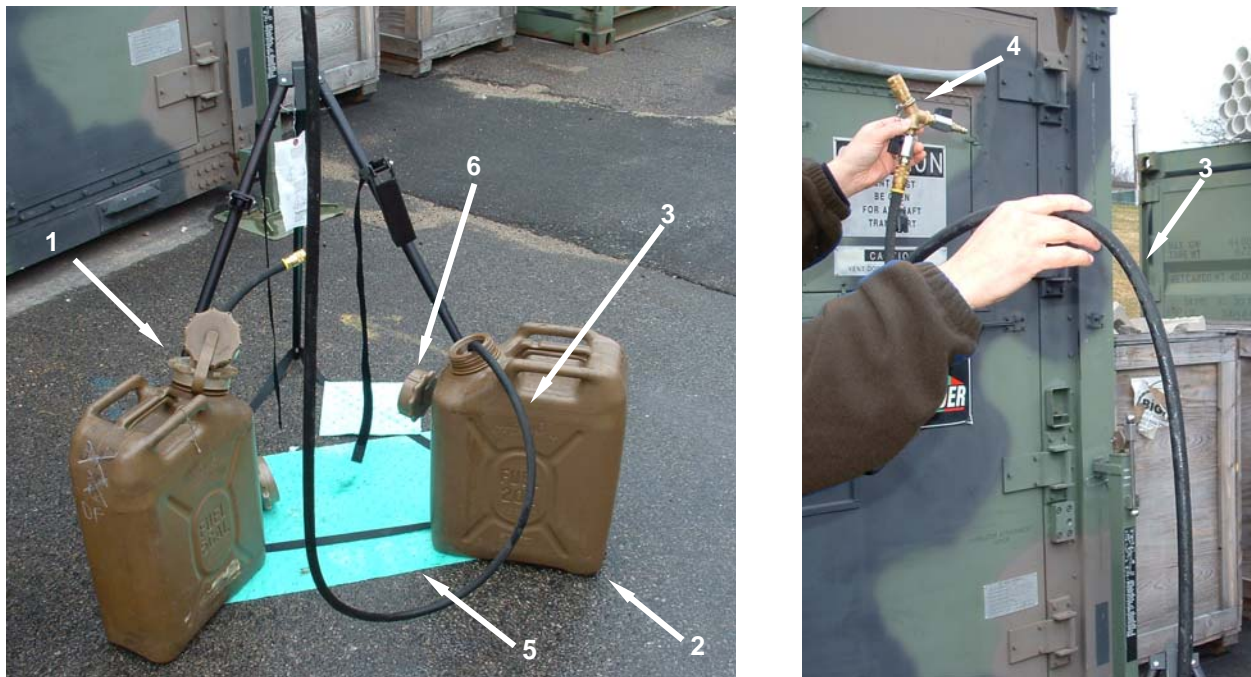

Figure 16. Prepare for Movement – Draining the Fuel Hose.
14. Remove the gravity feed adapter (**Figure 16, Item 1**) from one fuel can (**Figure 16, Item 2**), and leave the can open.
15. Place the male end of the fuel hose (**Figure 16, Item 3**) into the open can (**Figure 16, Item 2**).
16. Connect the Y adapter (**Figure 16, Item 4**) to the female end of the fuel hose (**Figure 16, Item 3**), and raise the Y adapter above the level of the fuel can (**Figure 16, Item 2**).
17. Open both valves on the Y adapter (**Figure 16, Item 4**), and slowly “walk out” the remaining fuel from the fuel hose (**Figure 16, Item 3**) into the fuel can (**Figure 16, Item 2**) progressively raising the fuel hose from the Y adapter to the fuel can.
18. Close both valves on the Y adapter (**Figure 16, Item 4**), and disconnect the Y adapter from the fuel hose (**Figure 16, Item 3**). Cap the Y adapter male fittings with the attached caps.
19. Remove the male end of the fuel hose (**Figure 16, Item 3**) from the fuel can (**Figure 16, Item 2**), and quickly connect the male and female ends of the fuel hose together. Wipe the connection and hose clean of all fuel, and place the fuel hose on the petroleum absorbent mat (**Figure 16, Item 5**).
20. Install the cap (**Figure 16, Item 6**) on the open fuel can (**Figure 16, Item 2**).
21. Remove gravity feed adapter (**Figure 16, Item 4**) from the remaining fuel can (**Figure 16, Item 4**).
22. Install cap (**Figure 16, Item 6**) on the fuel can (**Figure 16, Item 2**) and tighten securely.
23. Place both gravity feed adapters (**Figure 16, Item 1**) on a petroleum absorbent mat (**Figure 16, Item 5**). Use the mat to wipe any excess fuel from the surface of the gravity feed adapters.